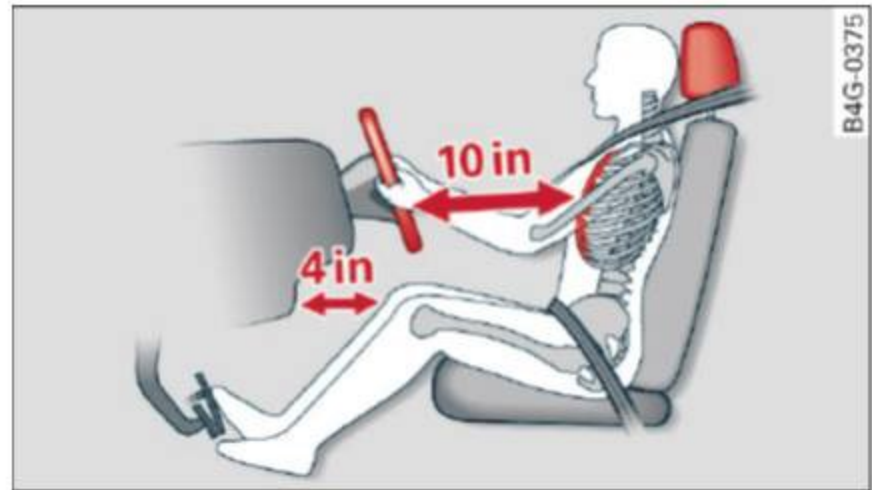

Fig. 118 Correct seating position
- ▶ Adjust the steering wheel so that there is a distance of at least 10 inches (25 cm) between the steering wheel and your breast bone ⇒ *fig. 118*. If not possible, see your authorized Audi dealer about adaptive equipment.